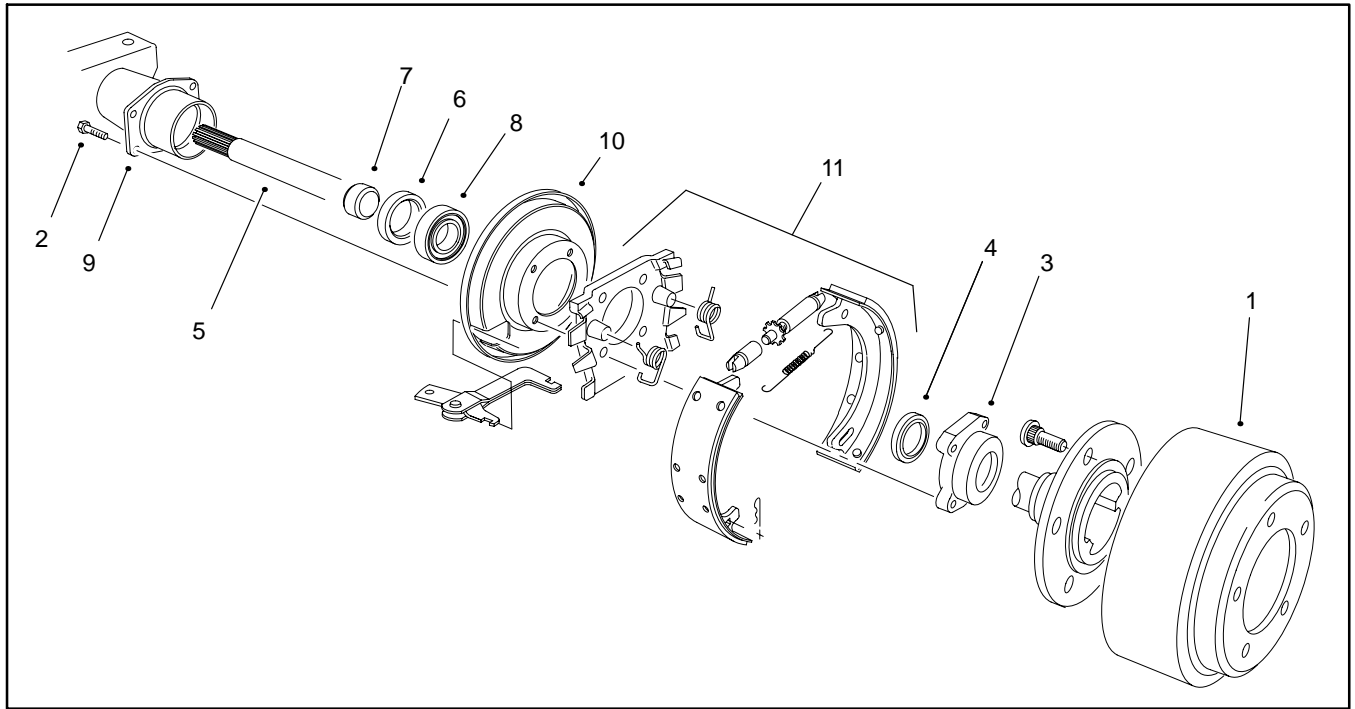

Figure 7
3. Remove cap screws securing bearing cap (Fig. 7).
5. Remove and discard the inner axle shaft seal (Fig. 7).
9. Remove the bearing cap and discard the bearing cap seal (Fig. 7).